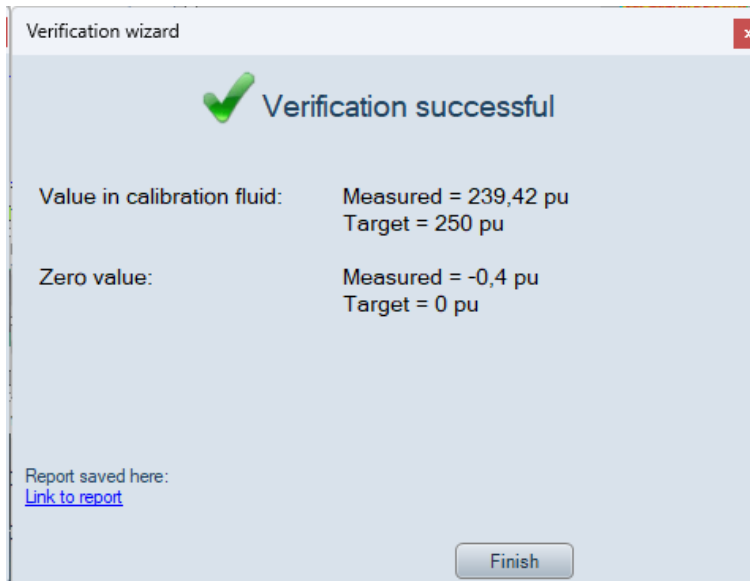

Figure 11-9 Successful verification.
- If the verification is successful, close the wizard by clicking *Finish*. A verification report is automatically stored and is accessible through a link in the dialog (see Figure 11-9).